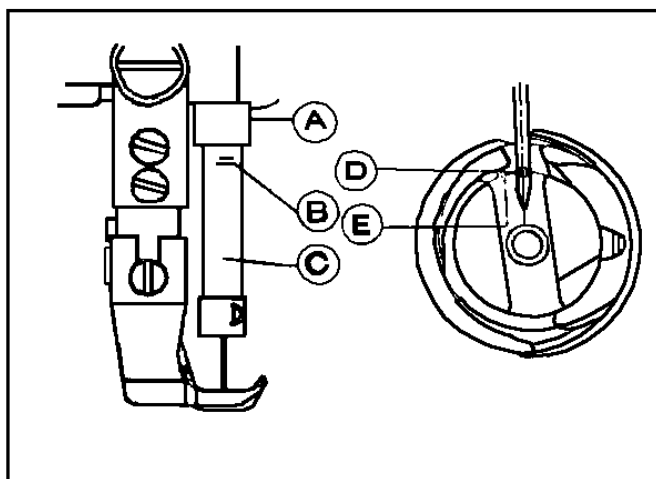

Fig. 18
- 5) After the adjustment, tighten Set Screw ( B ) and put in the rubber plug. The standard needle timing ( See Fig.18 ) is to align Timing Mark ( B ) on the needle bar and the bottom of Needle Bar Bushing ( A ) and meanwhile align the Inner Surface ( E ) of the hook and the center of Needle Eye ( D ) when the needle bar gets down to its lowest position.